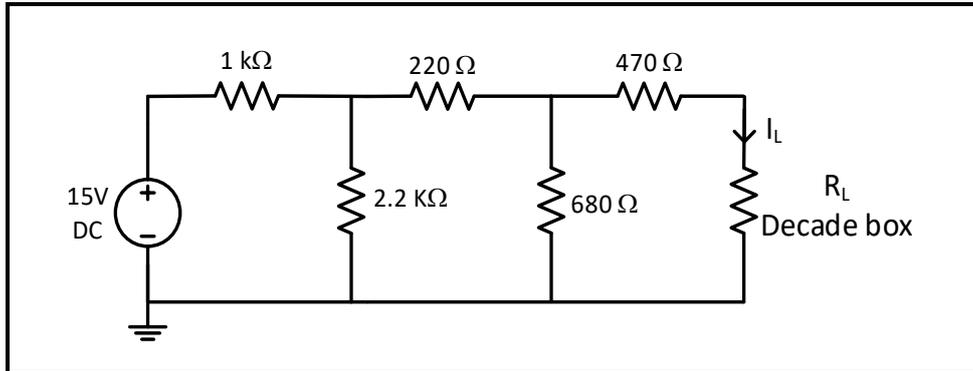

Figure 9.5
1. Make a DC sweep for R_L in the circuit of Figure 9.5 to produce a plot of (P_{LOAD} vs. R_L) for the range of values of R_L shown in Table 9.2, use cursors to find the value of R_L that results in maximum power transfer to R_L .
1. Connect the circuit of Figure 9.5, with the output of the power supply set to 15 V.